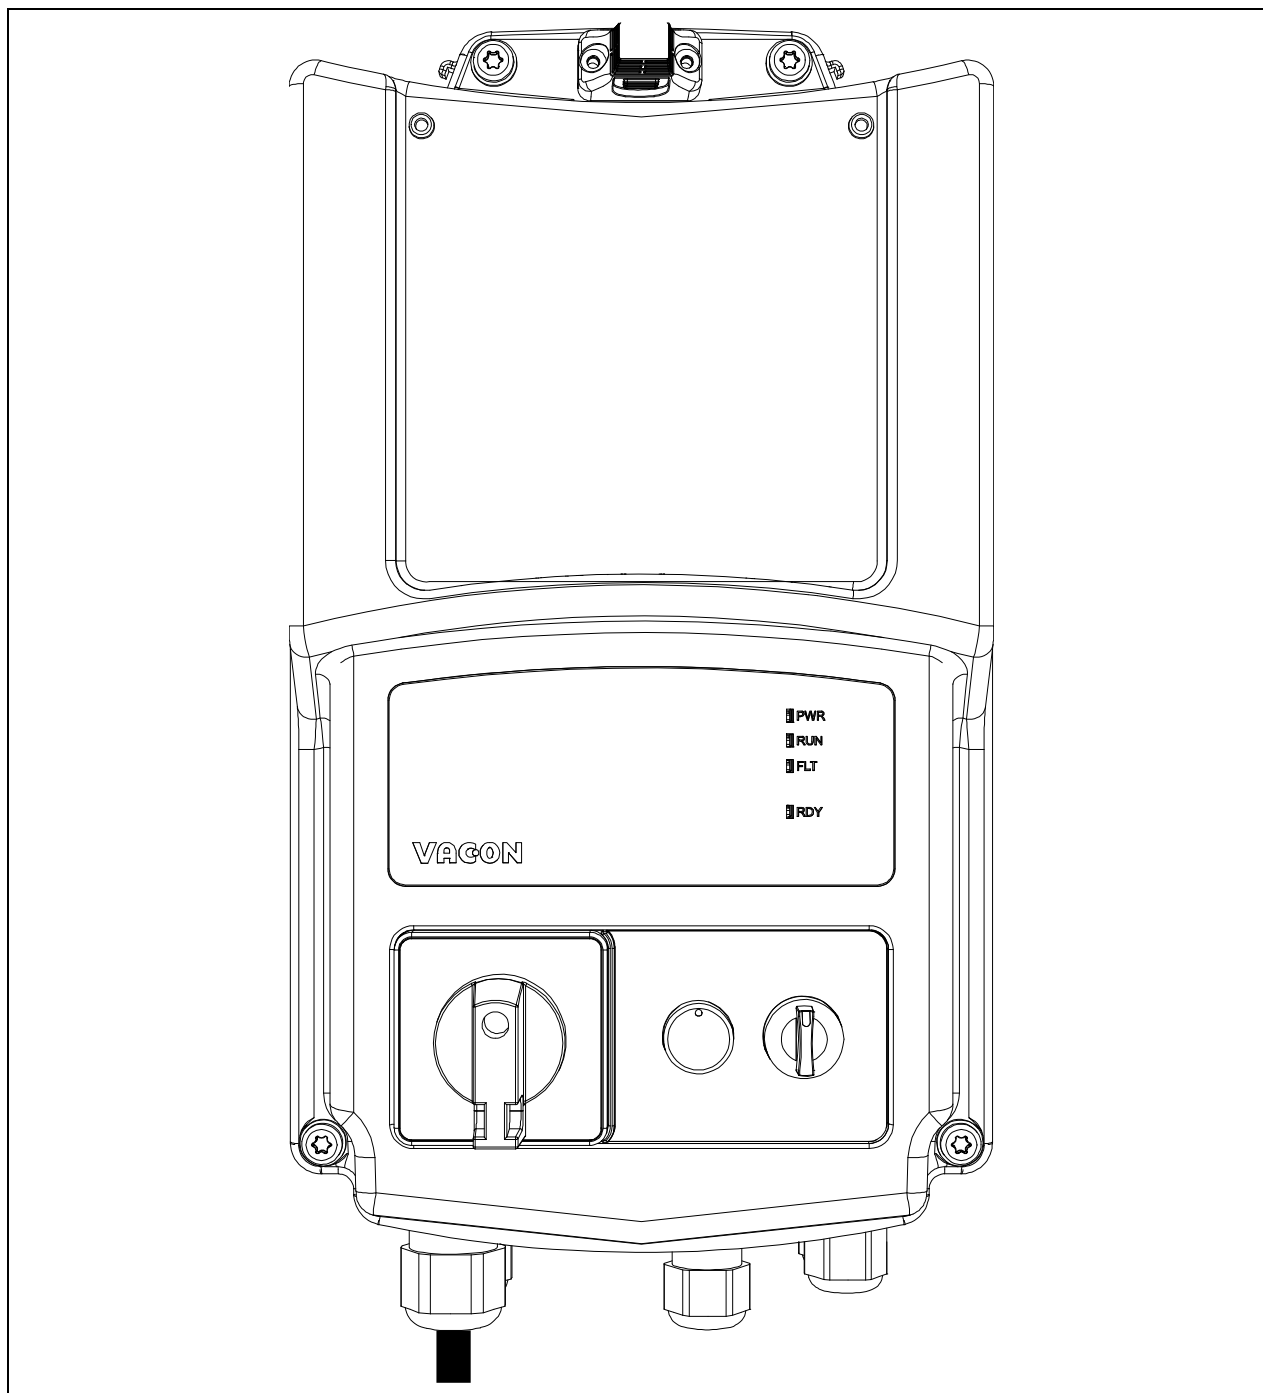

Figure 62. Mount the plastic cover.
- Mount the plastic cover onto the drive with its screws and the HMI cap: the installation process has been completed. See Figure 62.